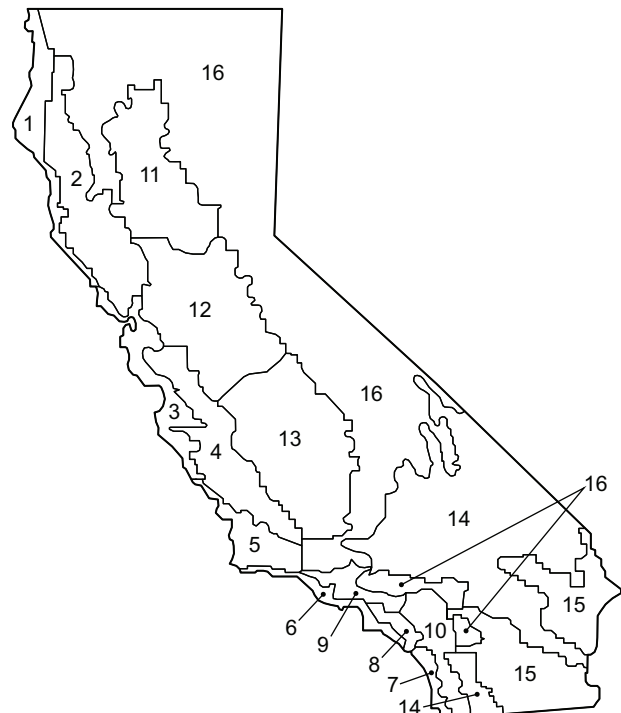

Fig. 66 – California Title 24 Zones
b. See Fig. 66 for map of California Title 24 zones.